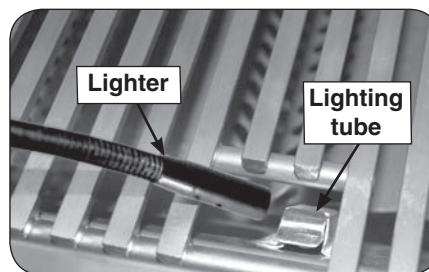

Fig. 23-2 - Manual lighting
**CAUTION:** Always wait five (5) minutes for gas to clear after any unsuccessful lighting attempt.
2. Insert either a burning long-barrel butane lighter or a burning long-stem match through the cooking grid opening to the top of the lighting tube. (Fig. 23-2). For backburners, hold the flame against the surface of the backburner. For charcoal burners, hold the flame near the burner.
4. If the burner does not light within five (5) seconds of turning the control knob, **immediately depress the knob and turn the valve to OFF**. **WAIT FIVE (5) MINUTES** before repeating steps 2 through 4 of the MANUAL LIGHTING instructions.